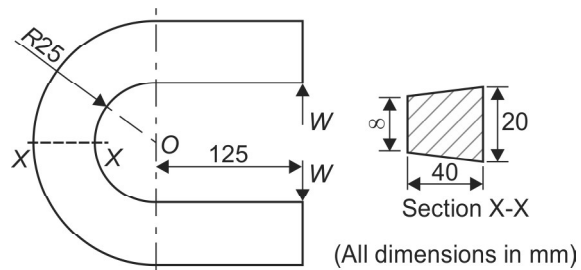

Fig. M1.12
22. The frame of a punch press is shown in Fig. M1.12. Find the stresses at the inner and outer fibers at section X-X of the frame, if $W = 5000$ N. (10 Marks)